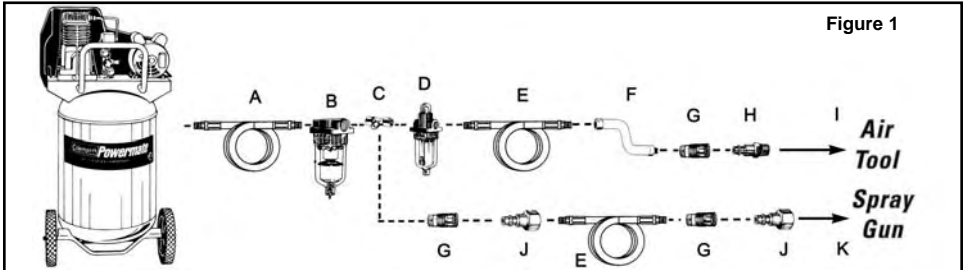

Figure 1
- Connect the tool to the air hose quick coupler. **NOTE: It is recommended that a whip hose with a swivel (P012-0079SP - not included) be used to prevent twisting, kinking and excessive wear to the air hose (ref. item "F" in figure 1 for recommended connections).**